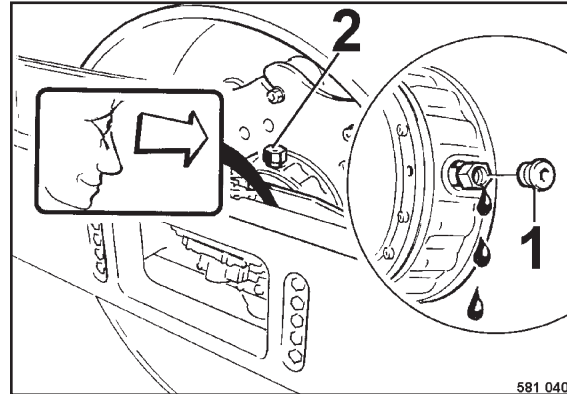

Fig. 114
- Move the machine until one plug 1 (Fig. 114) is in horizontal and one plug (2) in top position.
- Clean and unscrew plug (1).